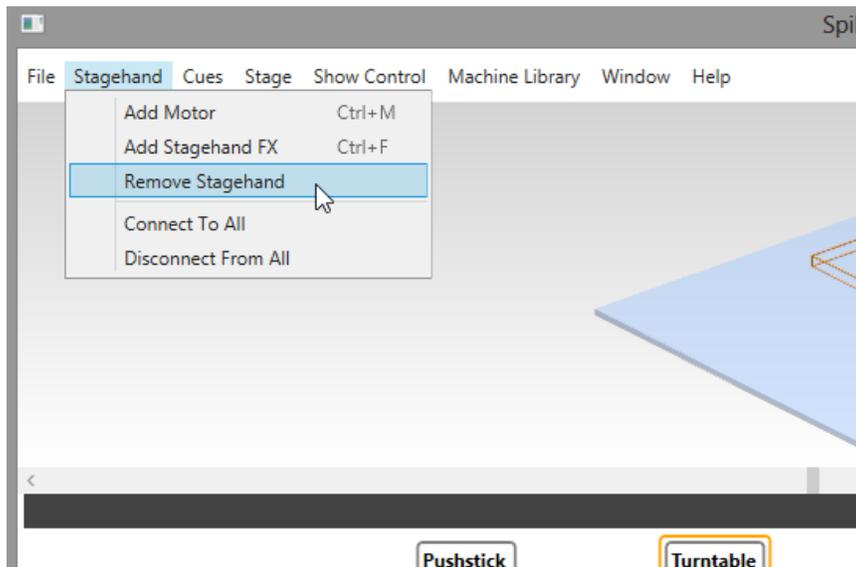

Figure 76
2. With the machine that you wish to remove selected, choose **Remove Stagehand** from the **Stagehand Menu** (Figure 76).